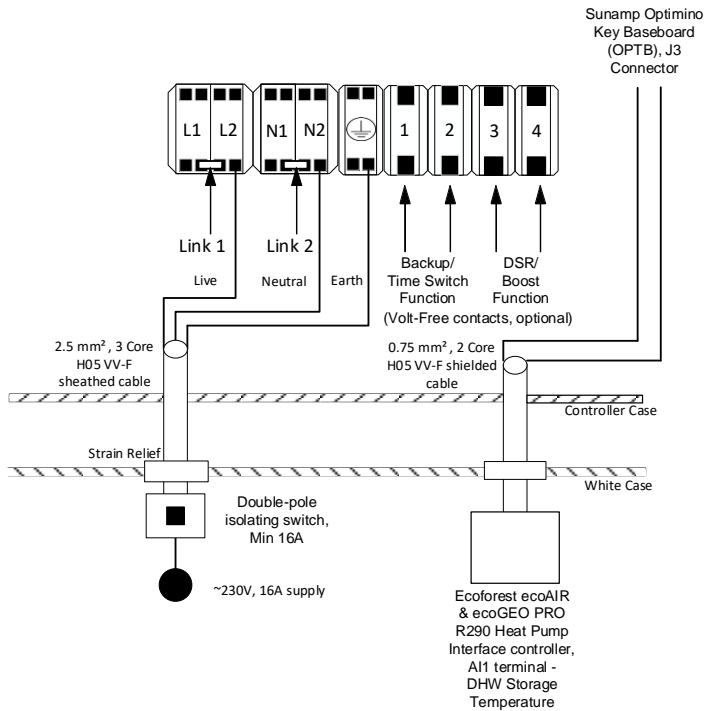

Figure ET.1 - Thermino xPlus with ET01 Optimino key
- Thermino xPlus with the “ET01” & “ET02” Optimino keys (D0084 – Section 6.4.2 for wiring instructions & Figures ET.1 & ET.2 below)
housing through the hole available. Secure the cables in terminals J3 on the Optimino Board; please see Figures ET.1 & ET.2 below for reference.